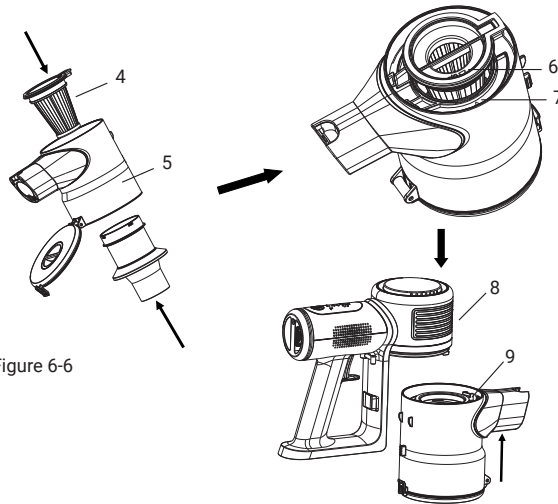

Figure 6-6
6.4 Slide the filter screen No.5 back onto dust cup and rotate it clockwise to fix, refit the HEPA filter No.4 back onto filter screen (pay attention to the position arrow No.6 and No.7). Hang the hook No.8 engaged into the hole No.9 then slide them into the main unit. See figure 6-6.